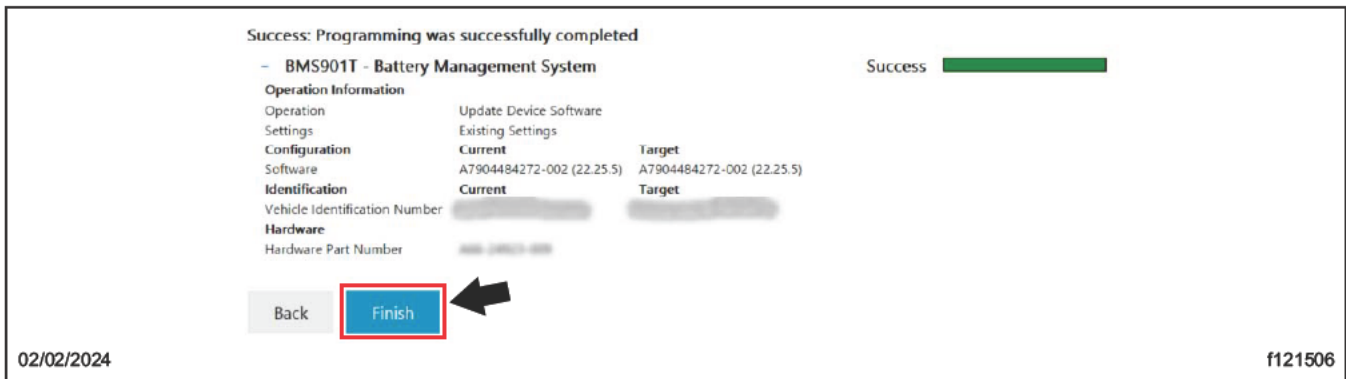

Fig. 29, Programming Successful for BMS901T
13.5 Once the programming is complete, a message is displayed: 'Programming was successfully completed.' Select 'Finish.' See Fig. 29.